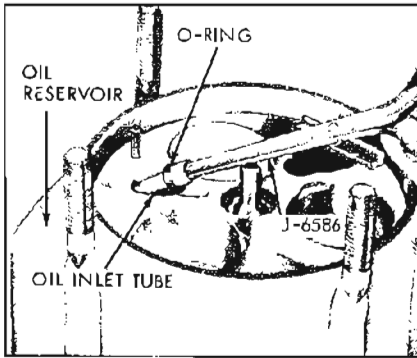

Figure 11-73—Removing Oil Inlet Tube
10. Pull out oil inlet tube (see Figure 11-73) and oil inlet tube "O" ring using Remover (J-6586).